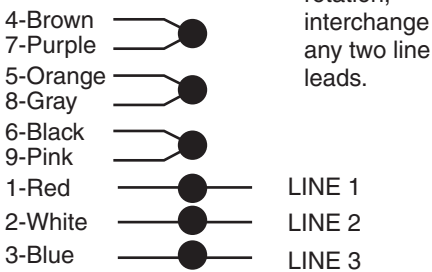

**Figure 12A – 230V Single Phase Wiring Diagram**
- Wire motor as shown (Figure 12B). If motor nameplate diagram does not match either Figure 12A or 12B, follow nameplate diagram.
Your motor’s terminal board (under the motor end cover) should match the diagram in Figure 12A or 12B.
For single-phase motors, follow Figure 12A. For 3-phase motors, follow Figure 12B. If motor does not match this picture, follow the connection diagram on the motor nameplate or in the motor connection box.
7. Connect current carrying conductors to terminals L1 and L2 under motor canopy (single phase) or in motor connection box (3-phase). When replacing motor, check wiring diagram on motor nameplate against Figures 12A and 12B. If the motor wiring diagram does not match one of the diagrams in Figures 12A and 12B, follow the diagram on the motor.